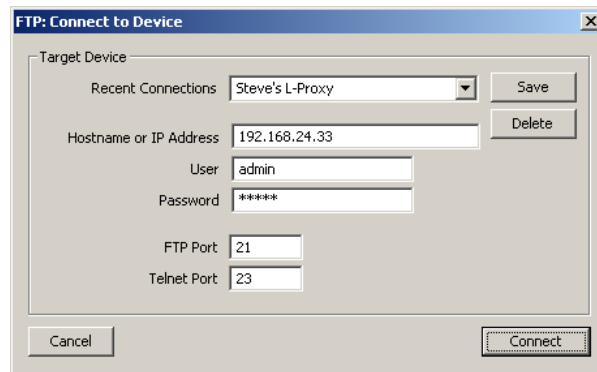

Figure 148: FTP connection dialog.
2. Select the menu: **Operations → Connect to L-Proxy → FTP**. This opens the FTP connection dialog as shown in Figure 148.